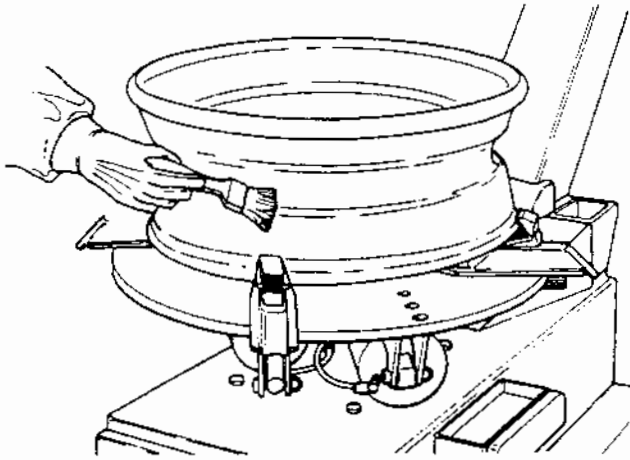

Fig.18
A. Clean entire rim surface (Fig.18).